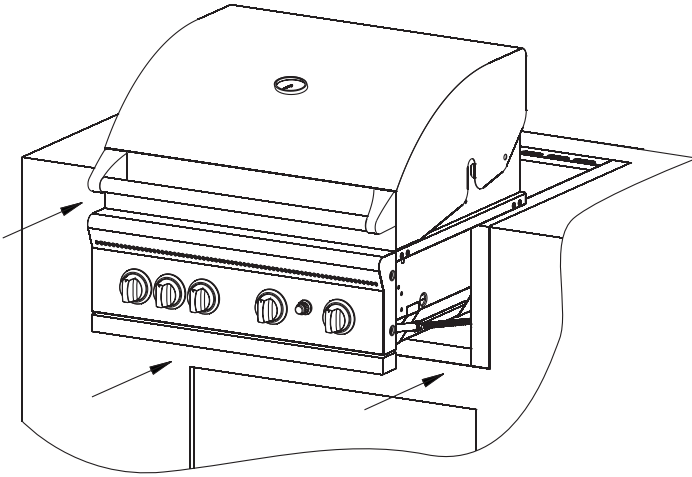

Figure 4
- Slide grill head with flex gas line attached into surround. Make sure flex gas line is protruding out surround side. See Figures 4 and 5.